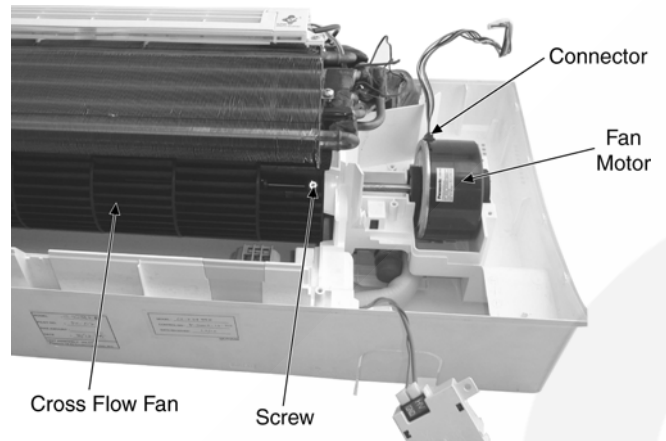

Fig. 7
- Remove the screw at the Cross Flow Fan. (Fig. 7)
To reinstall the Fan Motor, please adjust the connector location is positioned 45° with Fan Motor before fixing Control Board Casing. (Fig. 7)